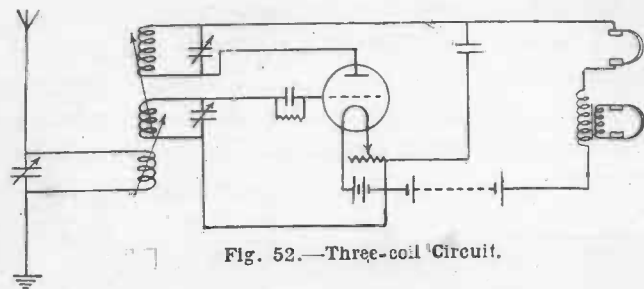

Fig. 52.—Three-coil Circuit.
on the secondary, so the coils are from rear to front on photographs, and top to bottom on diagrams, Figs. 52 to 54. (1) Three-coils; (2) two-coil circuit; (3) three-coil two-valve set.